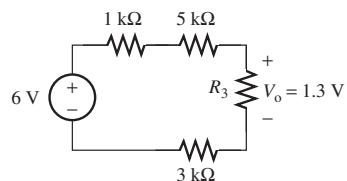

FIGURE P3.24 Circuit for Problem 3.24.
- 3.24 (A)** Given V_0 , find R_3 in Figure P3.24.